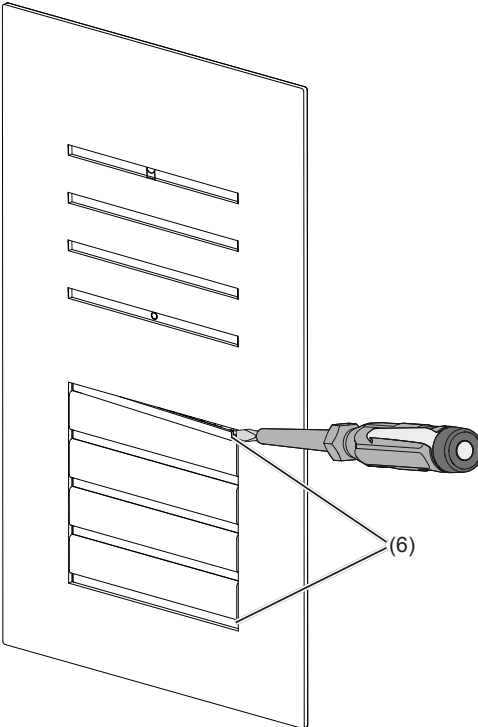

Figure 13: Removing the cover strips
- Lever up the interlocking cover strips (6) at the top and bottom using the screwdriver and remove (Figure 13).